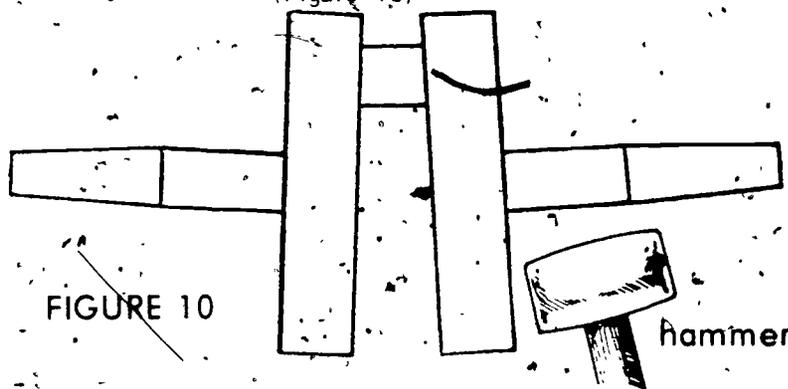

FIGURE 10
- 2) Tap wheels opposite crankpin toward each other (Figure 10)